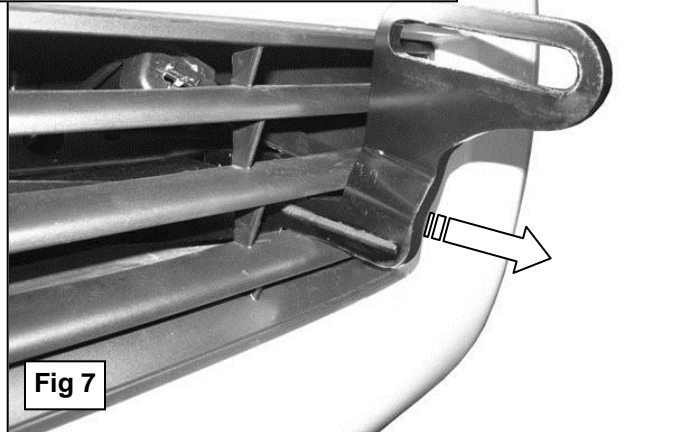

Fig 7
7. Carefully insert the driver/left side Top Bracket through the opening in the bumper and attach it to the tab on the Top Mounting Bracket using the included (2) 10mm x 35mm Hex Bolts, (2) 10mm Lock Washers and (2) 10mm Flat Washers, **(Figure 5 & 6)**. **IMPORTANT:** To provide maximum clearance between the Grille Guard and the vehicle, gently pull the Top Bracket outward away from the vehicle as you tighten the (2) Hex Bolts, **(Figure 7)**.